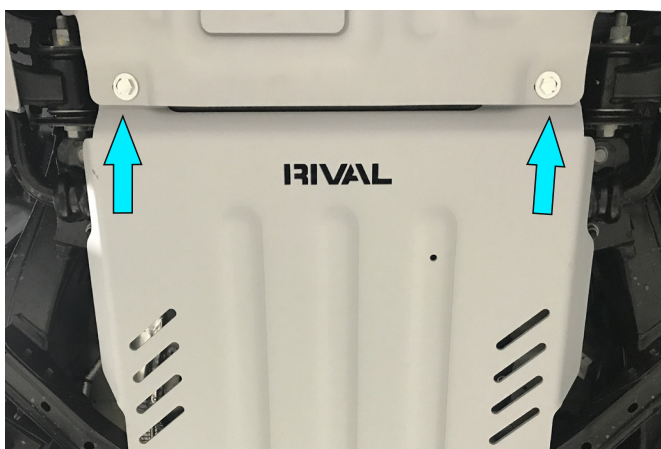

Fig. 3
3. Put the front part of gearbox skid plate (item 1) above engine skid plate or RIVAL engine skid plate on installed bolts (Fig.3).